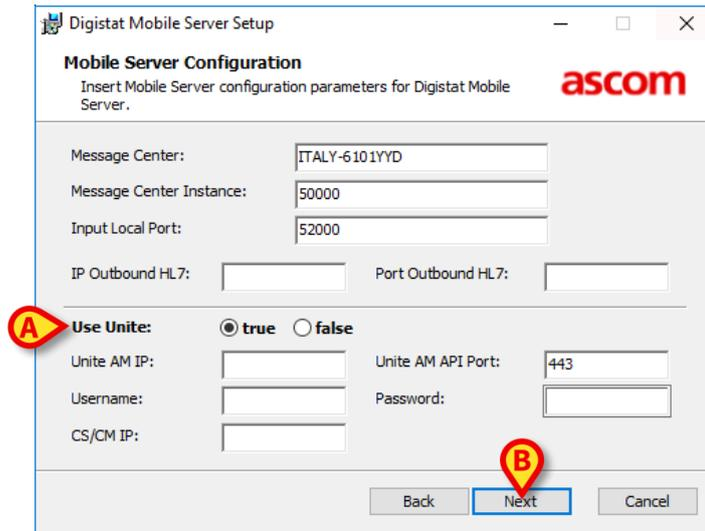

Fig 16
- **Use Unite (Fig 16 A):** this selection makes it possible to integrate the Digistat login with Ascom Unite Messaging Suite Login. Set “True” to enable it. Here specify:
Click **Next** when done (Fig 16 B).